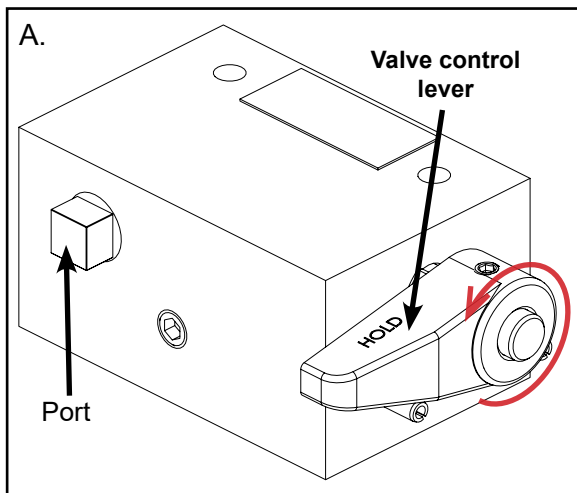

Figure 2
2. 2-Position, 2-Way Manual Valve Used With Single-acting Cylinder (Figures 2 & 3)
- A. To HOLD pressure, turn the valve control handle counterclockwise (CCW), (See Figure 2)